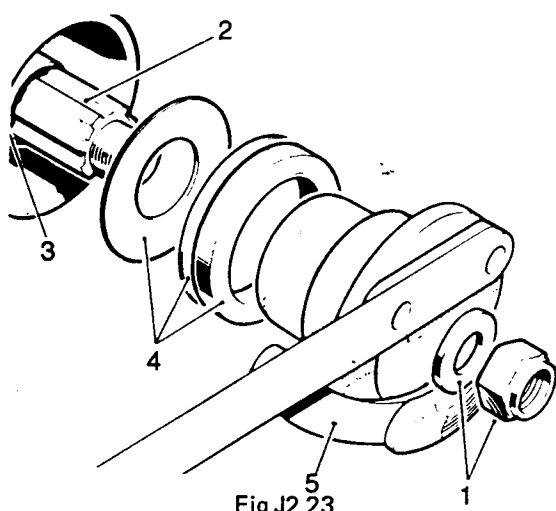

Fig J2.23
- (1) Refer to Fig J2.23. Prevent the coupling flange from rotating and remove the flange locknut and plain washer (1), using spanner 18G1205 (5).
- (2) Support the drive pinion and remove the coupling flange by tapping with a hide hammer.
- (3) Withdraw the drive pinion (2) together with the inner bearing cone.
- (4) Withdraw and discard the collapsible bearing spacer (3). Withdraw the oil seal, gasket, oil thrower (4) and outer bearing cone.